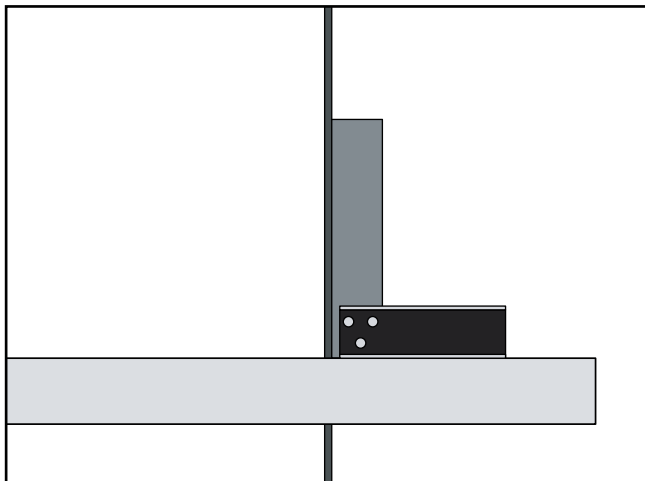

Figure 27. Squaring table to blade.
4. Raise the upper blade guide assembly and place a 6" machinist's square or try-square on the table next to the side of the blade as illustrated in **Figure 27**.